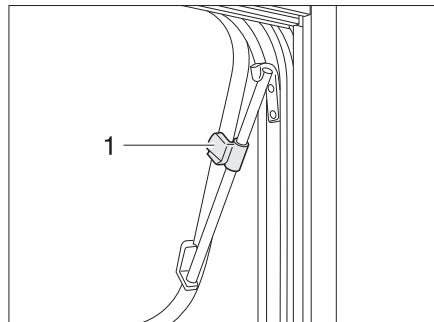

Fig. 72 Hinged window with rotary hinges, open
- Open the hinged window until the required position has been reached and secure in position using the knurled knob (Fig. 72,1).
- Turn the knurled knob (Fig. 72,1) until the latch is released.